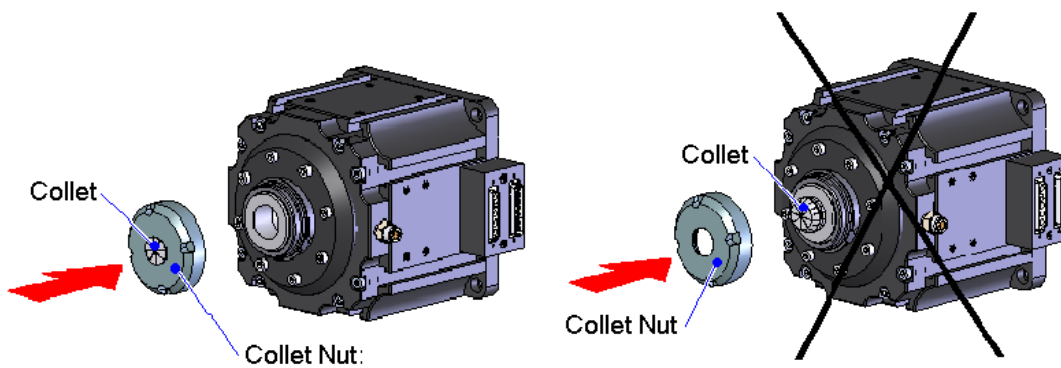

Figure 4-12: Installation Procedure for Collet
6. Guide the collet and nut into the stage, making sure that the collet seats properly in its taper. See Figure 4-12. Be sure that air pressure is still being supplied to the stage so the collet chuck is in the open position.
Figure 4-12 shows an ACS stage. The same procedure applies to ACS LP stages.